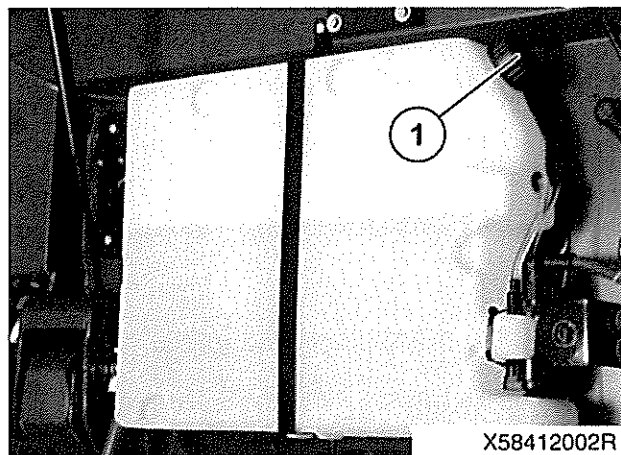

Fig 10 Checking windscreen washers and wipers
- 17 Refer Fig 10. Before starting the engine, check the windscreen washer system as follows: